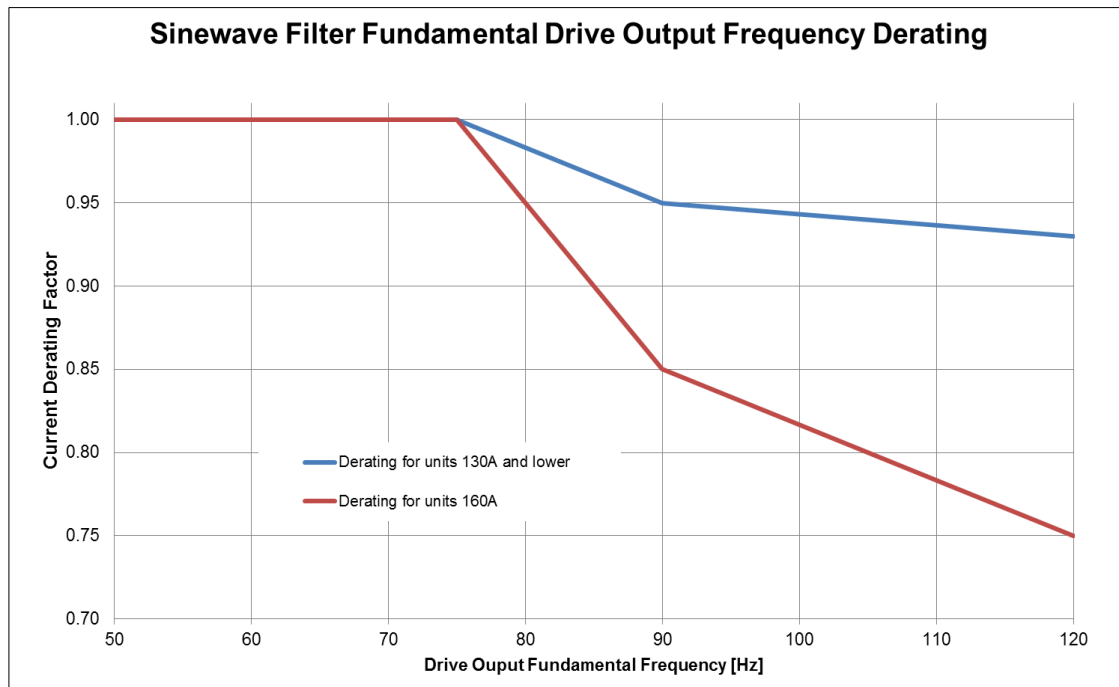

Figure 3-6: Motor Frequency Derating
- Drive Output Frequency:** Support for 6Hz to 75Hz without derating, >75Hz to 120Hz with derating. See Figure 3-6: Motor Frequency Derating (p10) for derating curve.